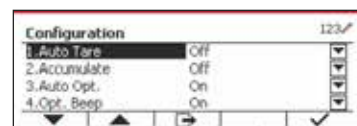

Figure 50
1. Press the softkey corresponding to the **⚙️** icon to enter Configuration. The Configuration screen is now displayed. (See Figure 50)